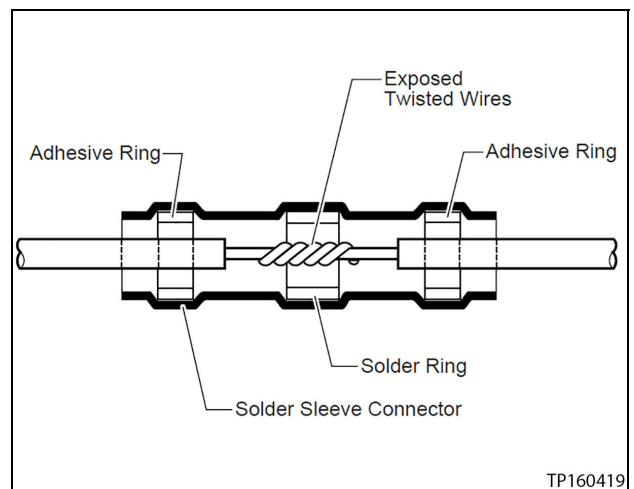

Figure 57
50. Position the solder ring in relation to the twisted wires as shown in Figure 57.